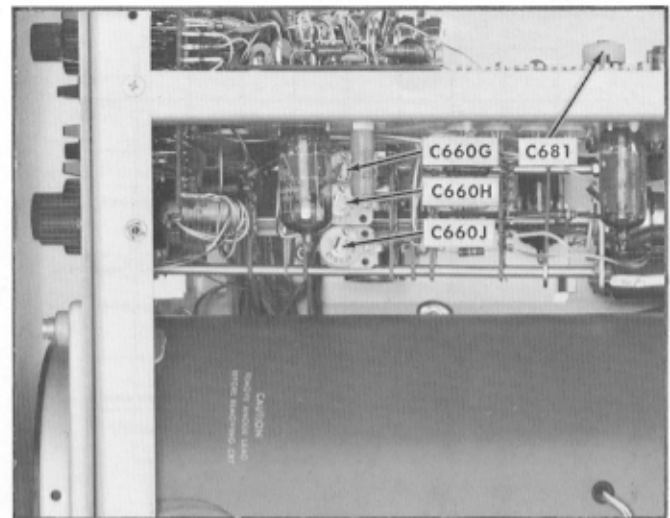

Fig. 6-45. Adjustment locations for A sweep timing, top view of Type 556.
h. Adjust C660G (Fig. 6-45) so that the 10th marker is fully intensified, and the Lower Beam display markers are positioned as in step (g).
m. Adjust C660H (Fig. 6-45) so that the tenth marker is intensified to the marker tip, and the delayed sweep display is positioned the same as in the 1.00 setting of the DELAY TIME MULTIPLIER dial.
r. Preadjust C660J (Fig. 6-45) for one 1 μ SEC marker/2 cm.
u. Preadjust C861 (Fig. 6-45) for one marker/cm.
- ab. Readjust C660J (Fig. 6-45) to position the eighth marker at the intercept point.
- ae. Readjust C681 (Fig. 6-45) for one marker per cm.